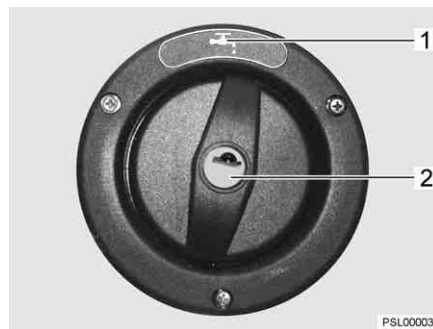

Fig. 35 Cap for the drinking water filler neck
- ▷ The drinking water filler neck is indicated by the symbol "☰" (Fig. 35,1).
- Insert the key in the locking cylinder (Fig. 35,2) and turn it in an anticlockwise direction.